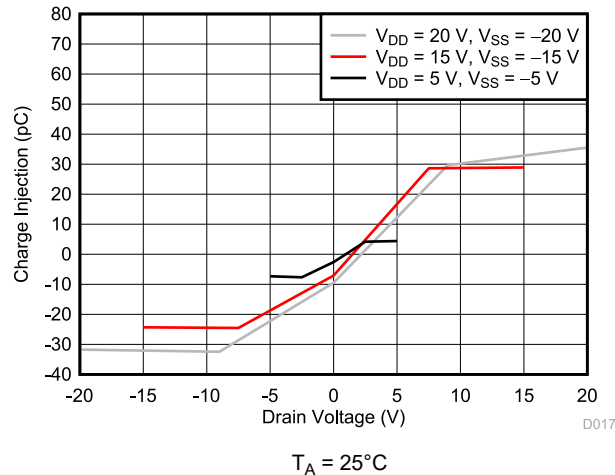

Figure 9-3. Charge Injection vs Drain Voltage
The low on and off leakage currents of TMUX7208M and ultra-low charge injection performance make this device ideal for implementing high precision industrial systems. The TMUX7208M contains specialized architecture to reduce charge injection on the drain side (D) (see Section 8.3.7 for more details). Figure 9-3 shows the plot for the charge injection versus source voltage for the TMUX7208M.